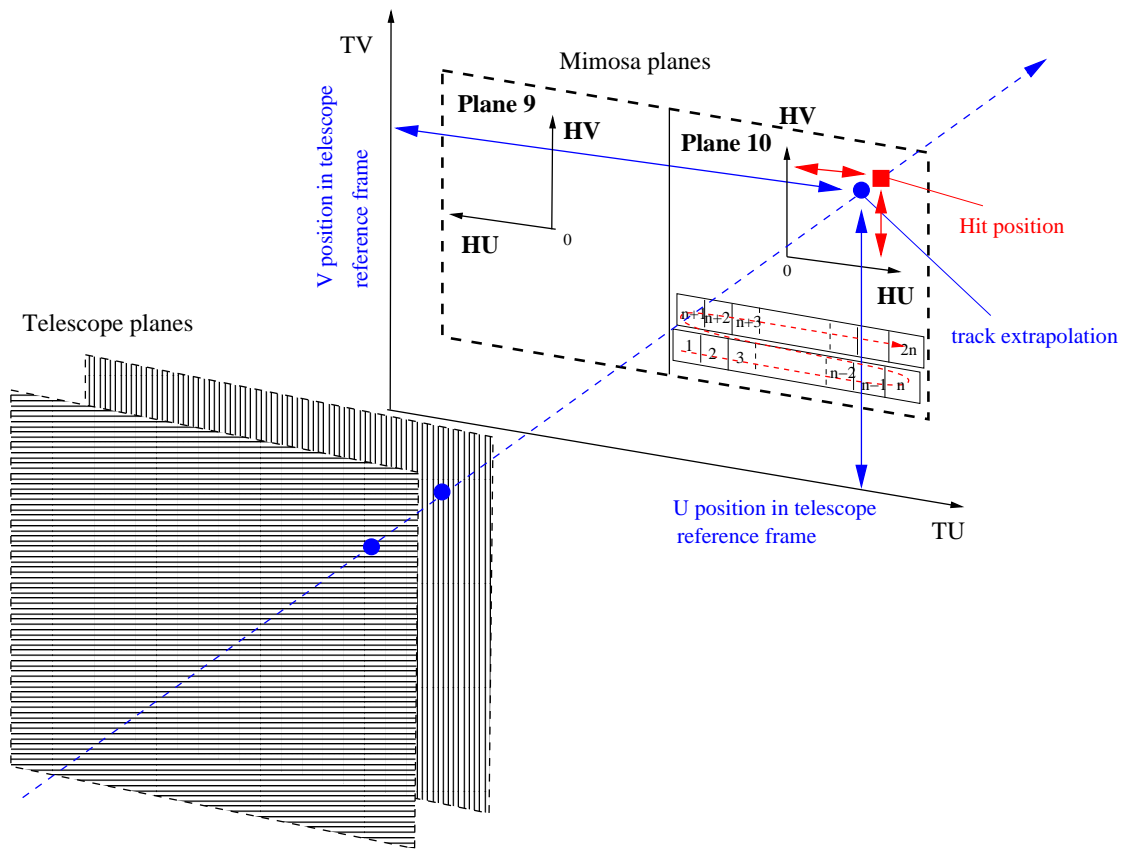

FIG. 1 – Mimosa Alignment : Readout example and corresponding reference frames
- The (HU,HV) reference frame is related to the plane under study (mimosa). It is fixed. The U and V directions in the mimosa chip are defined by the way pixels are read and stored in the raw data. Data are usually stored line by line. These lines define the U direction. (see figure 1). The origin (0,0) of the frame is the center of the matrix.